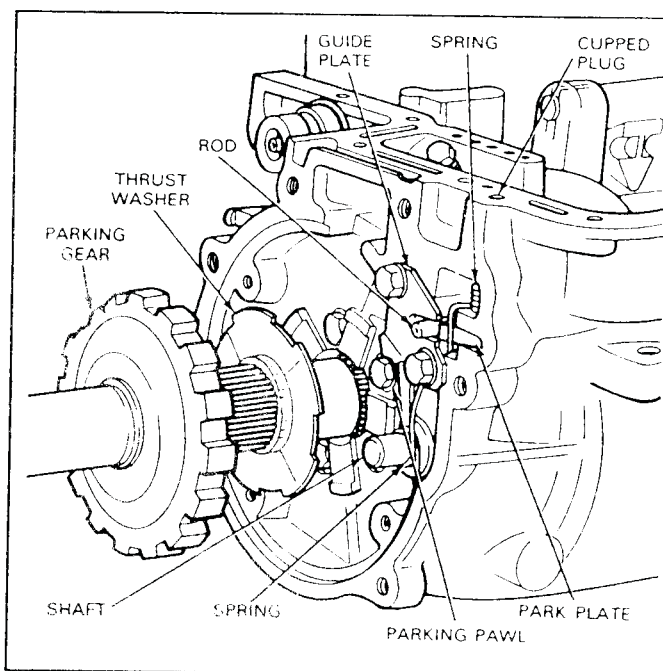

FIG. 31 Parking Pawl Mechanism
1. Remove the bolts securing the parking pawl guide plate to the case (Fig. 31). Remove the plate.